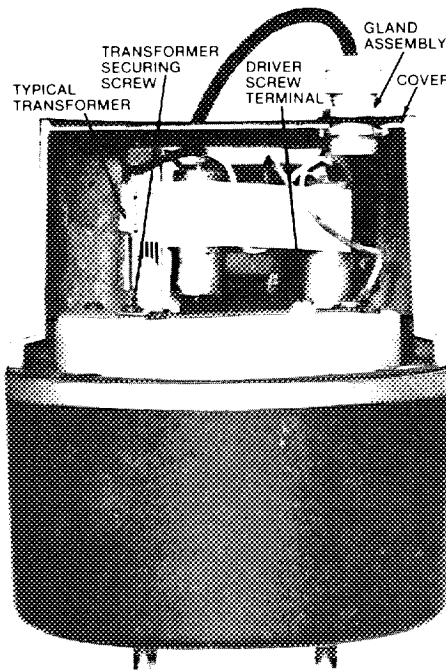

Figure 6. Altec 290 Series Driver with Typical Transformer Installed
1. Remove screws securing driver cover (see Figure 6); lift off cover and gasket. Do not loosen or remove gland fitting from cover.